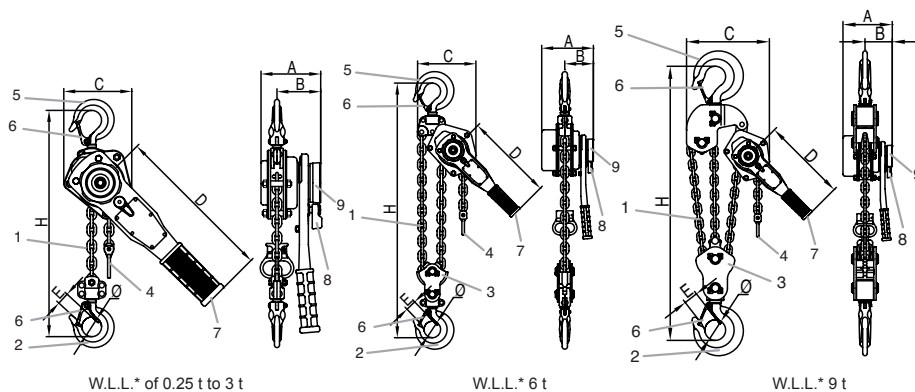

Fig. 1
The bravo™ hoist is supplied with a standard 1.50 m length of load chain (item 1, fig. 1). The load chain used with the 0.5 t to 3 t models is formed by a single strand with a lifting hook (item 2, fig. 1) at its end. The load chain used with the 6 t model is formed by two lifting strands and a sheaved lifting hook (item 3, fig. 1).
The free end of the chain is equipped with a low limit stop (item 4, fig. 1).
1. Check that the bravo™ hoist is properly suspended by its suspension hook (item 5, fig. 1) and that the hook safety catch (item 6, fig. 1) is properly closed (see figs 2 and 3).
The bravo™ hoist is operated by means of an actuating handle (item 7, fig. 1) which is moved back and forth by the operator to lift or lower a load, pull a load, or apply tensioning.